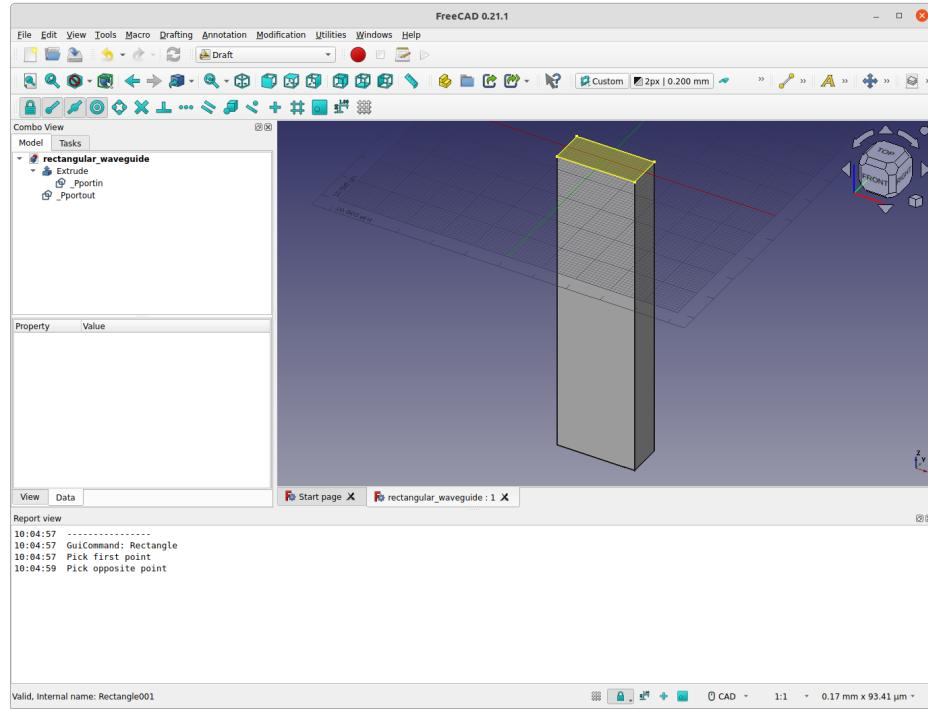

Figure 5: Hovering over the port object –
- Hover the cursor over the **\_Pportout** in the **Combo View** window and the rectangle will highlight as shown in Fig. 5.